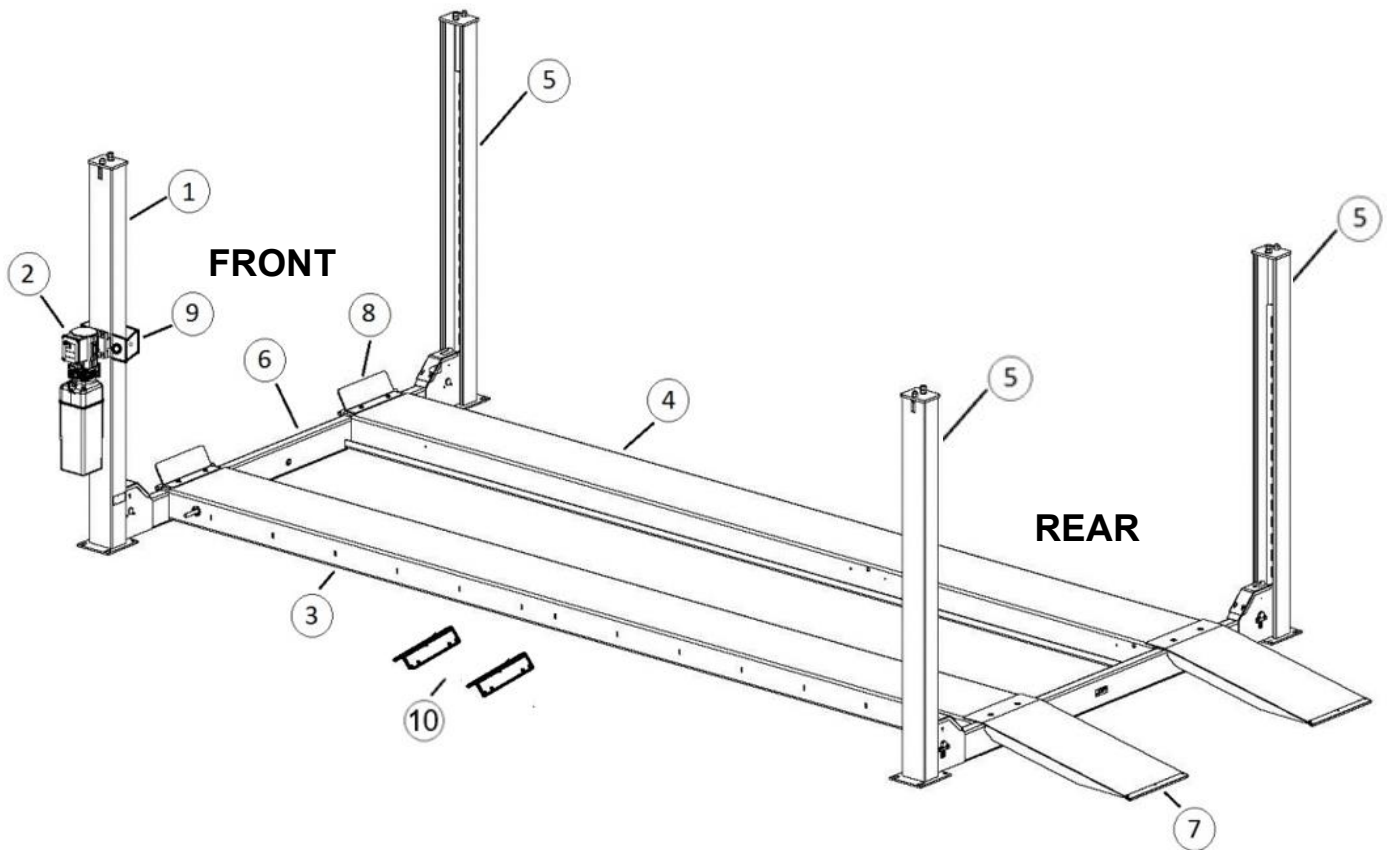

Fig. 2
**NOTE:** The Main Side 'Power' Runway & Main Side Post must be installed on the same Side & End, shown in Fig 2.)
- 1) Position the Main Side Post (w/ Power Unit Mounting Bracket) at the left front corner of the Main Side Runway. Position the remaining three Sub Posts at the other remaining corners, shown in **Fig. 2**.